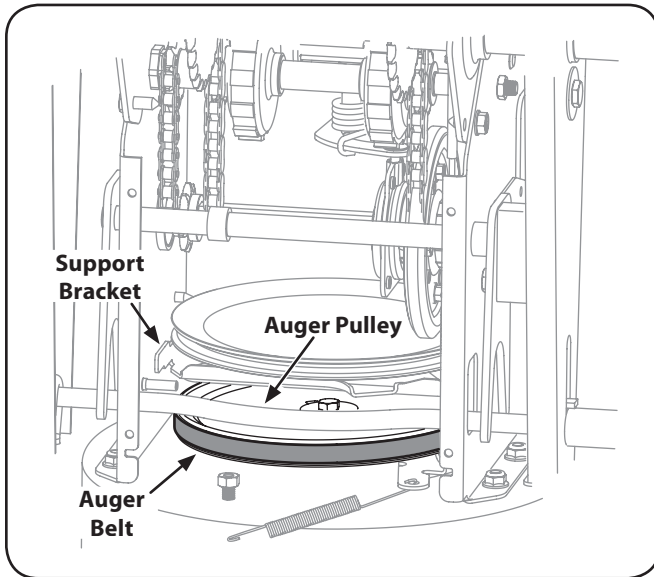

Figure 7-5
- Lift the auger belt from the auger pulley, and slip belt between the support bracket and the auger pulley. See Figure 7-5.